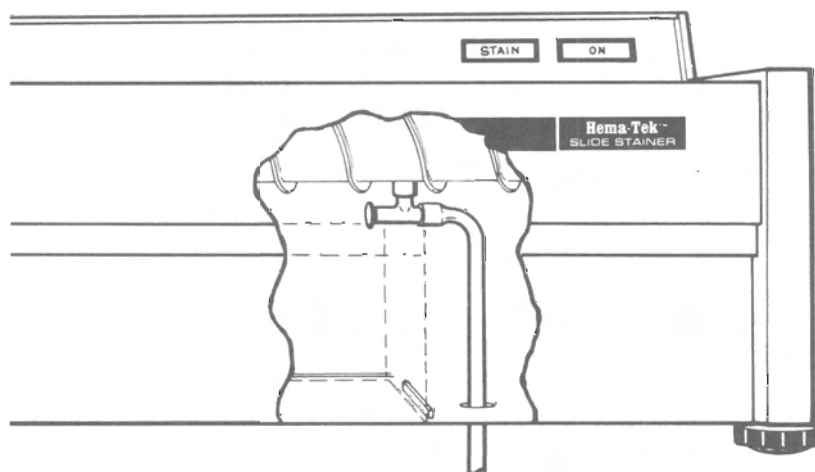

Figure 2-2
- STEP 2** Reach up to the T-shaped drain spout located on the bottom of the platen and remove the yellow drip plug from the left side of the drain spout (Figure 2-2). Save this plug in case the internal drain may be used in the future.